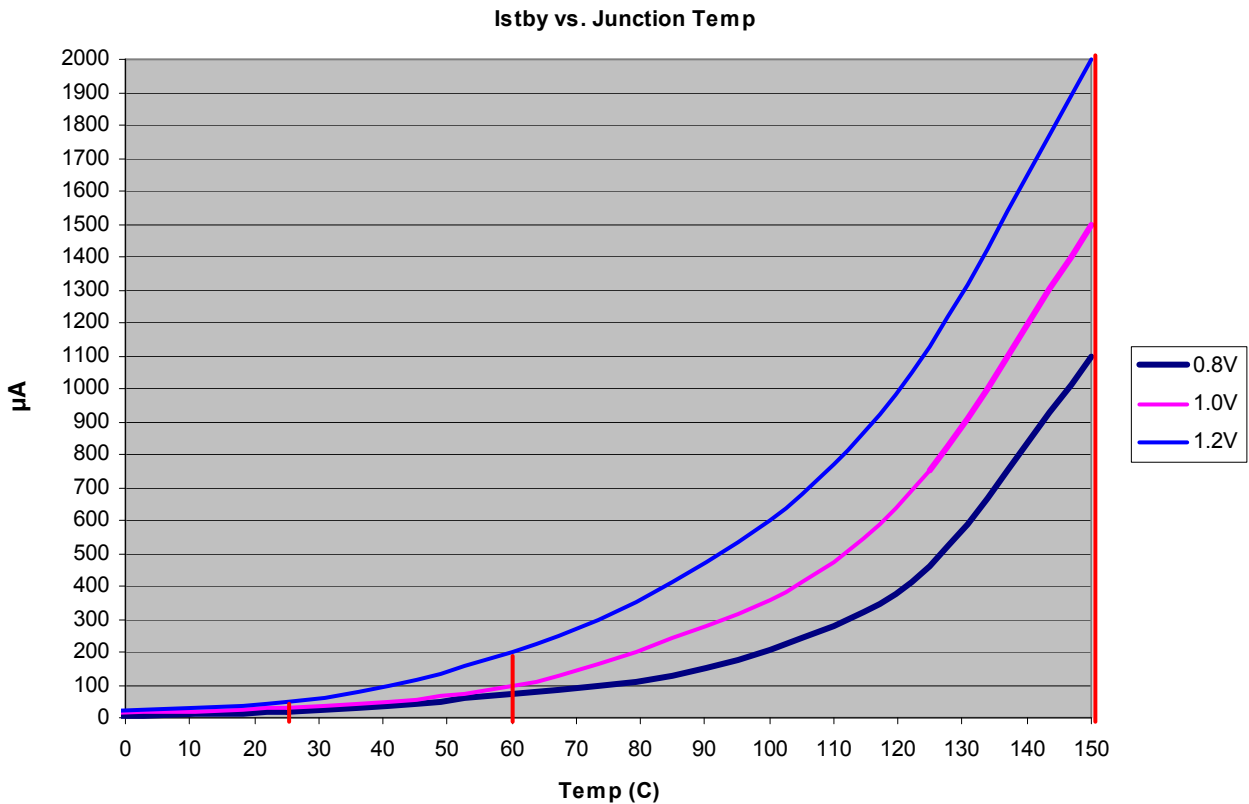

Figure 3. I_{STBY} Worst-case Specifications
- 9 Figure 3 shows an illustration of the I_{DD_STBY} values interpolated for these temperature values.
Figure 3 shows an approximate interpolation of the I_{STBY} worst-case specification to estimate values at different voltages and temperatures. The vertical lines shown at 25 °C, 60 °C, and 150 °C in Figure 3 are the I_{DD_STBY} specifications (27d) listed in Table 9.